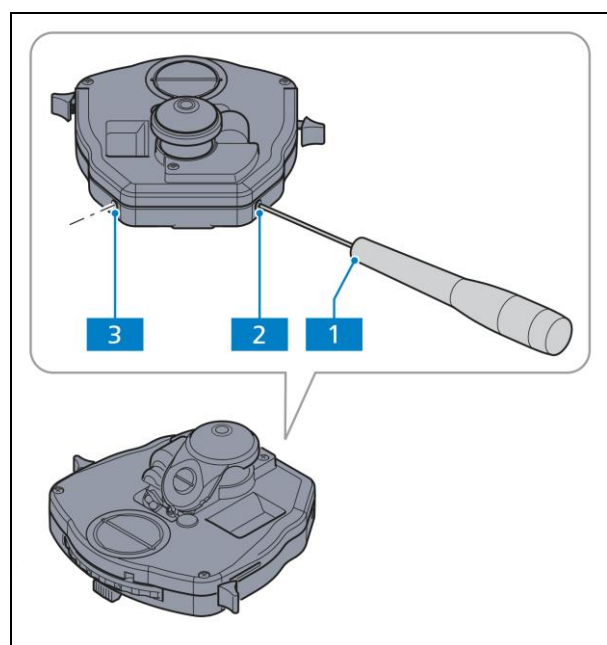
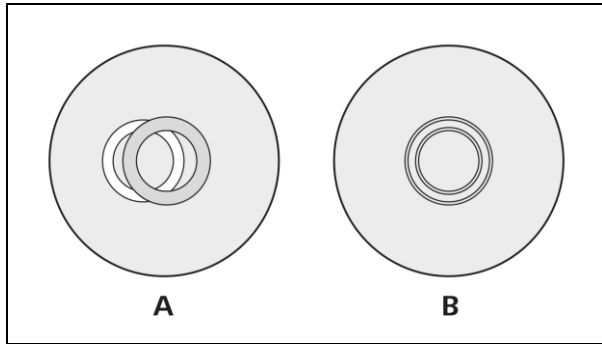

Fig. 4-5 Centering the darkfield stop on condenser, achromatic-aplanatic 0.9 H D Ph DIC
Fig. 4-6 Centering the annular phase diaphragm (light-colored, in the condenser) and the phase ring (dark-colored, in the object)
(3) Configuring transmitted light darkfield microscopy
- To center the darkfield stop (not possible with all condensers), use two Allen wrenches (AF 1.5) (Fig. 4-5/1) to turn the two centering screws (Fig. 4-5/2 and 3) until the exit pupil of the objective appears homogeneously dark. After centering, remove both Allen wrenches (AF 1.5) from the condenser.
- If the overlap is not exact (Fig. 4-6/A), the lighter annular diaphragm must be recentered with the aid of two Allen wrenches (AF 1.5) (Fig. 4-5/1). Adjust the two centering screws (Fig. 4-5/2 and 3) so that you achieve a full overlap with the darker phase ring (Fig. 4-6/B).
A complete phase contrast can only be achieved when the light-colored annular diaphragm (in the condenser) overlaps exactly with the dark-colored phase ring (in the objective) in the illumination beam path (Fig. 4-6/B).